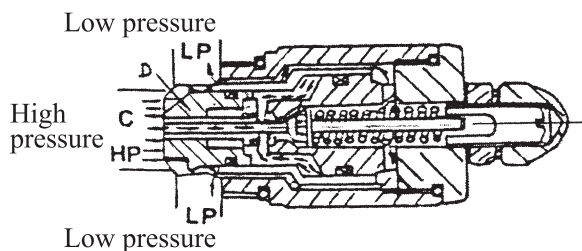

Fig. 7-7
(3) As the pilot poppet “E” is opened. The pressure behind the poppet “C” drops, due to which the poppet “C” is moved to seat on the pilot poppet “E”. As a result of this, the oil flowing behind the relief valve poppet, “D” is shut off and the pressure at the inner side is reduced. (See Fig. 7-7)